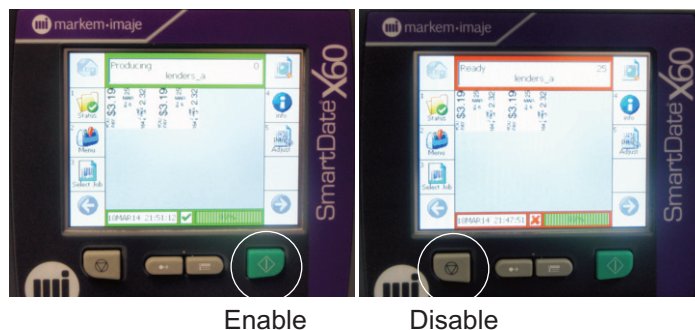

Figure 3.2
B. ENABLING AND DISABLING THE PRINTER: Figure 3.2